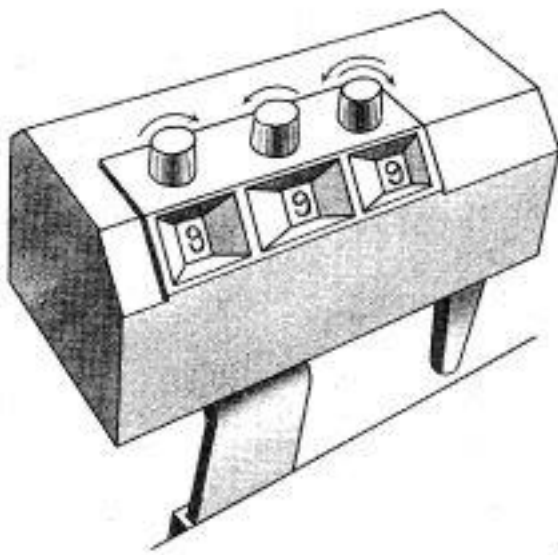

Fig. 80
2. The Row Counter registers single units on the right, tens in the centre and hundreds on the left. It counts automatically up to 999. (Fig. 80)
3. The numbers on the Row Counter may be adjusted or returned to zero by turning the adjusting screws on the top of the Counter. (Fig. 80)
To obtain numbers 000 on the Row Counter, turn the adjusting screw for the single units first so that it registers 0, then proceed for tens units by turning the screw anti-clockwise and hundreds units by turning clockwise in order—see Fig. 80.